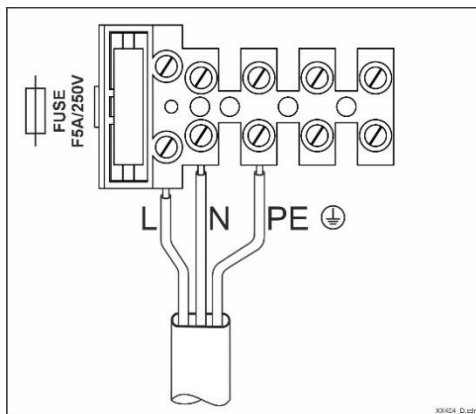

Fig. 1 Mains power connection to the terminal block
5. Connect the mains power cable as shown in the figure below (Fig. 1). L, N, and PE wires should be stripped of insulation for a length of 7 mm and mounted in the terminal in such a way that the insulated part of the wire is inside the terminal.